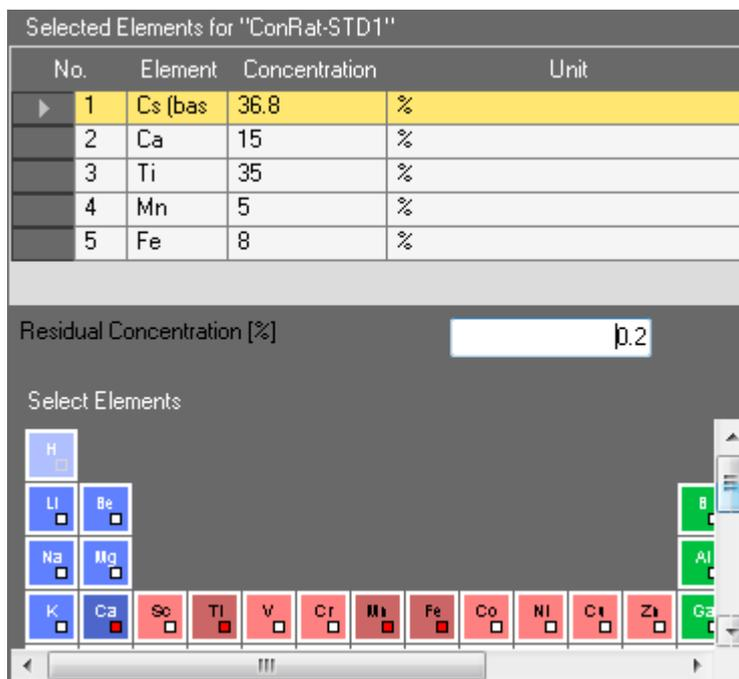

Figure 9-29. Enter Residual Concentration
- vi. Enter the **Residual Concentration [%]**, see Figure 9-29.